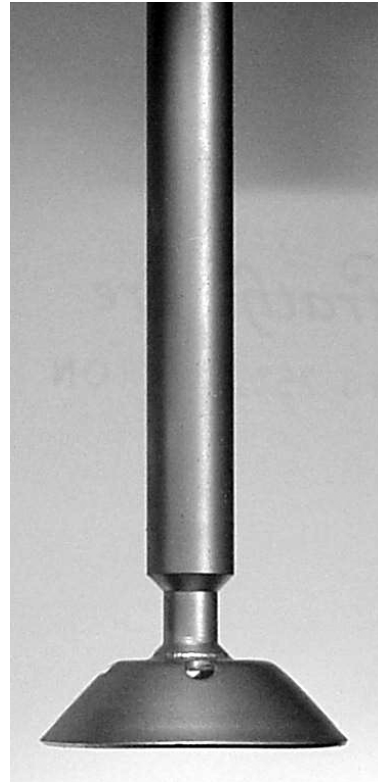

Fig. 11
4. If your machine is equipped with a mixer, position a cup of sanitizing solution immersing the agitator blade and shaft (Fig. 11) for five minutes or whatever is required by your local health authority for sanitizer contact time with food zone components.
2. Instruct the operators to refrain from coughing or sneezing onto the food zone components (Fig. 11 and Fig. 12).
HAIR, AND LOOSE FITTING CLOTHING AWAY FROM MOVING PARTS (MIXER BLADE - FIG. 11)